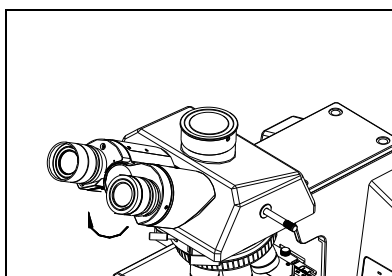

Fig.17
(1) Turn over the eye-cap if the user is wearing glasses, so that it can prevent the glasses touching the eyepieces and avoid damaging to both glasses and eyepieces.
(2) Open the eye-cap if the user doesn’t wear glasses, so that it can prevent stray light disturbing the observation. (See Fig. 17)